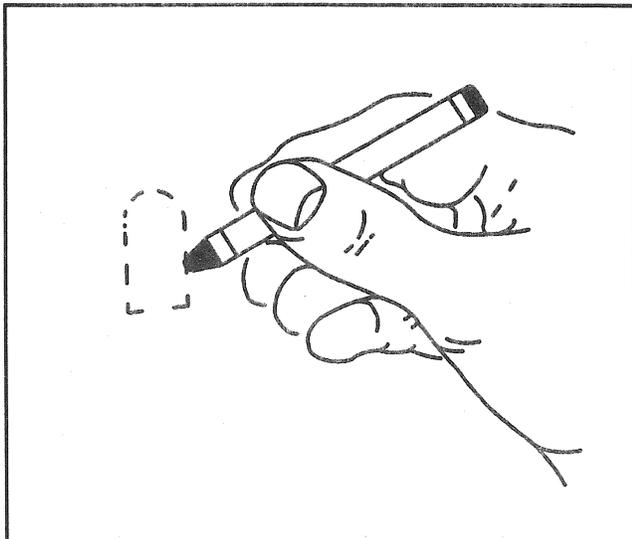

Figure 4—Marking the Location
- A. Mark **outside** of windshield with crayon to identify old location of rear view mirror button (Figure 4).